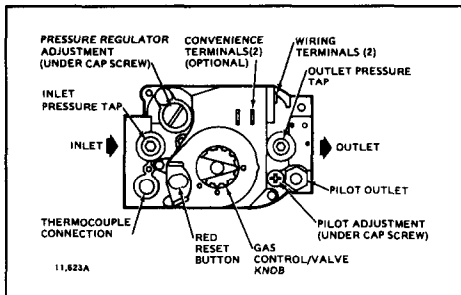

Fig. 4—Top view of gas control.
6. Connect pipe to control inlet and outlet. Use wrench on the square ends of the control. If a flange is used, place wrench on flange rather than control. Refer to Figs. 4 and 5.
3. Unscrew brass compression fitting from the pilot outlet (Fig. 4). Slip the fitting over the tubing and slide out of the way.
2. Connect control circuit to gas control terminals. See Figs. 4 and 8.
1. Remove pilot adjustment cover screw. See Fig. 4.
2. With main burner operating, check gas control flow rate using the meter clocking method or gas control outlet pressure rating using a manometer connected to the gas control outlet pressure tap. Refer to Fig. 4.